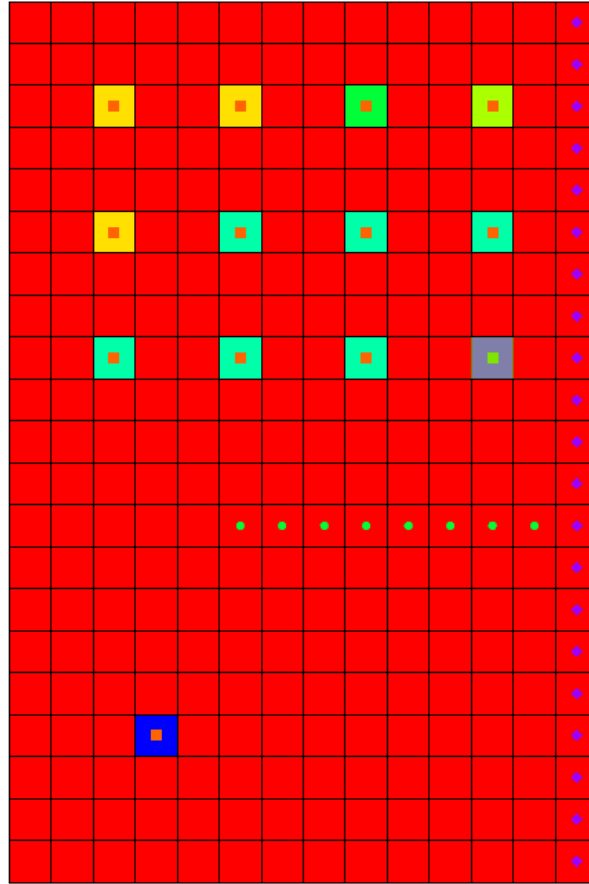

Figure 7 MNW boundary condition cell
6. Select the cell highlighted in dark green as in Figure 7 (bottom right cell of the group of wells, Cell ID: 124), then right-click and select **Sources/Sinks...** to bring up the *MODFLOW Sources/Sinks* dialog.